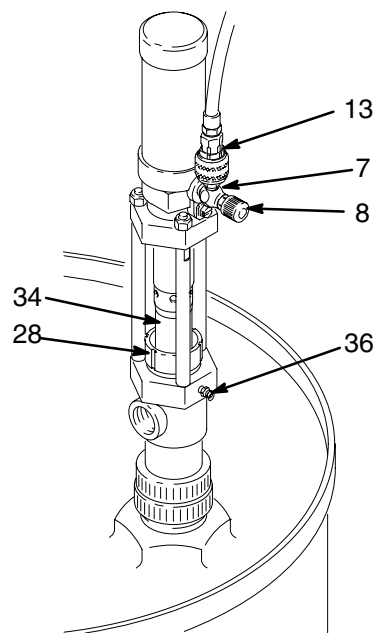
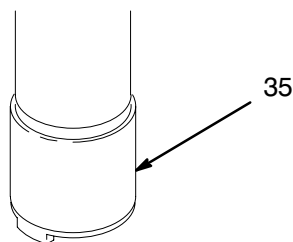

Fig 4
Fig 5
For shutdown, disconnect the air line coupler (13). See Fig 4.
1. Insert the 14.6 oz. cartridge (16) of IPL in a standard grease gun.
2. At shutdown each day, stop the pump with the rod (34) in the down position, then lubricate the packings liberally with IPL through the grease fitting (36). Proper lubrication prevents pump sticking. See Fig 4.
3. Wipe off the extra, contaminated IPL from around the top of the packing nut (28) and displacement rod (34).
If the air supply is dry, periodically oil the air motor. For manual lubrication, turn off the air, put about 15 drops of lightweight motor oil in the air inlet (7), reconnect the hose, and turn on the air. See Fig 4.
1. Open the air valve (8) or regulator to start the pump. Allow the pump to cycle slowly for at least 5 minutes.
4. Push up on the intake valve (35) check plate to drain the lower part of the pump. See Fig 5.
Periodically, check the tightness of the packing nut (28). It should be tight enough to prevent leakage; no tighter. See Fig. 4. If the leakage cannot be stopped, change the packings to prevent exposure to the fluid being pumped.